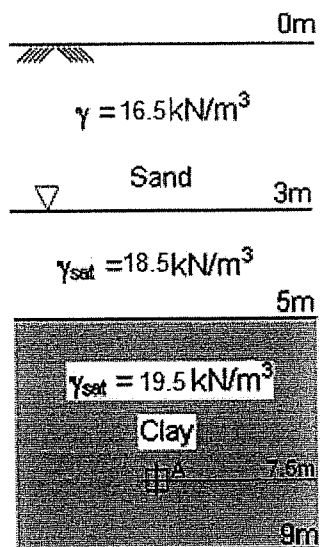

Fig. 2
2. Fig. 2 shows a soil profile of a land, where a compacted surcharge-fill of 1m is applied (surcharge-fill not shown in figure). An undisturbed specimen A is obtained from a depth of 7.5m from ground level, to perform an Unconsolidated Undrained Tri-axial Loading Test.